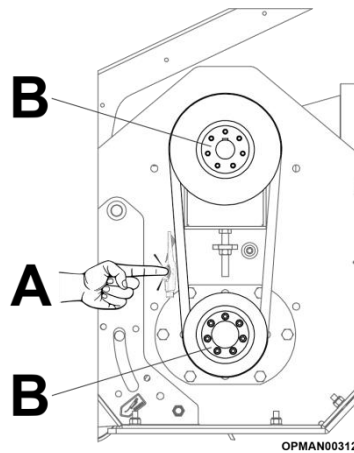

Figure 5.44 – Secondary Drive Belt Tension Overview
Tension is correct when a force is exerted on the belts at their mid-point between the upper and lower pulleys which deviates the belts; see Figure 5.44 (A).
After the first 2 hours of work re-check the belt tension and taper locks; see Figure 5.44 (B).